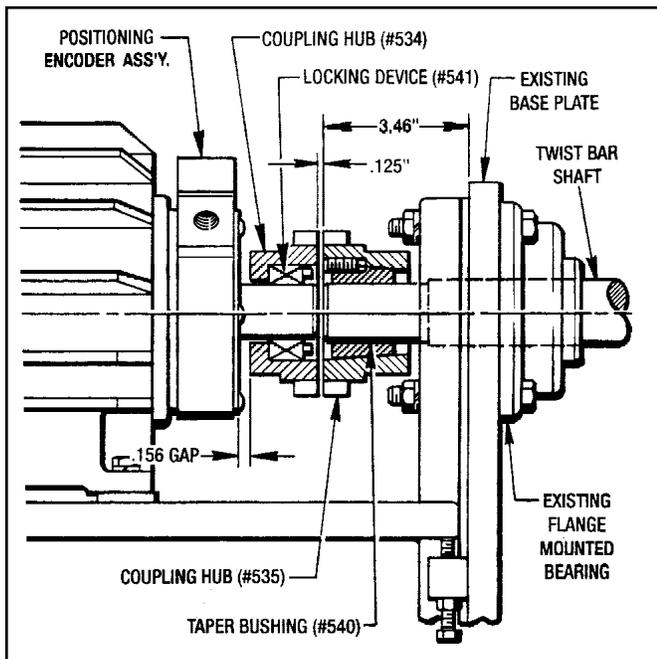

Figure 7.4 - Coupling Installation
1. First the Coupling Hub (#534) and Locking Device (#541) has to be installed on the *Posidyne* output shaft. If the Coupling Hub (#535) and Taper Bushing (#540) was also removed from the Twist Bar Shaft at disassembly, they will also have to be reinstalled. (See Figure 7.4)
3. Attach the *Posidyne* Unit with (4) Screws (#468) and (4) Lockwashers (#483).
4. Check Coupling Alignment and Position as specified in **Section 2-1 Installation of Drive Base** and as shown in Figure 7.4.
5. Attach the Coupling Guard (#516) with (4) Screws (#471) and (4) Lockwashers (#485).